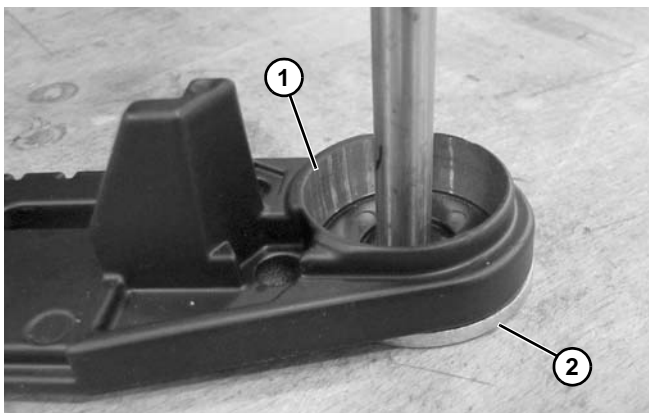

**Figure 138**
- b. For 5" (127 mm) or wider conveyor, push spring-loaded shaft ends (**Figure 138, item 1**) inward. Remove roller (**Figure 138, item 2**).